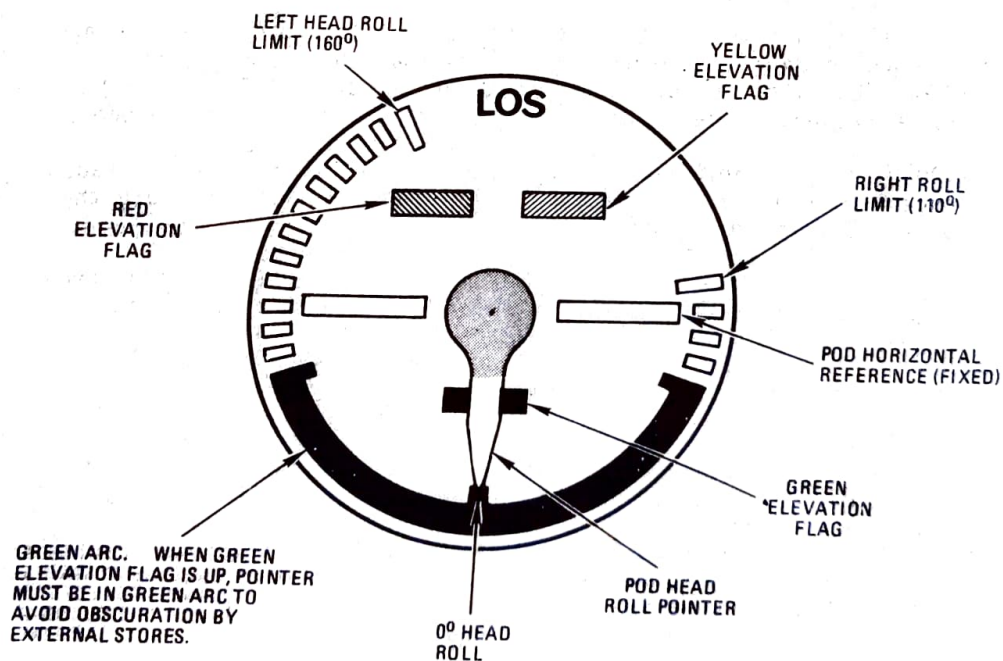

Figure 15, Azimuth-Elevation (LOS) Indicator
(5) X100 Display. The three seven-segment units in this direct readout display indicate the range to target (X100) in feet or, for the ROR mode, indicate the preset range for weapon release (mode switch at SET).
f. Azimuth-Elevation Indicator (LOS): See Figure 15. This indicator provides the pilot with a display of the pod LOS position relative to the aircraft obscuration limits. The relative pod LOS is affected by both the target position relative to the aircraft and the attitude of the aircraft; consequently, the pilot must consider both of these parameters when interpreting the information displayed.
(1) Dial Pointer (Head Roll): The pointer rotates in step with and in the direction of pod roll. The pointer is pointing straight down when the pod LOS is dead ahead with zero pod roll. The pointer position provides the pilot with pod roll data and, in conjunction with three flags, indicates the degree of obscurity that can occur unless the aircraft is maneuvered toward a more favorable position with respect to the target. When pod gimbal angle is no greater than  $120^{\circ}$  aft, no flags show. The flag area is blank, and those flight limitations imposed on the pilot to avoid obscurity in the pod LOS are the basic pod roll and positive gimbal angle limits. (This is recognized by the broken-line area of the dial.)
(2) Flag Indications.